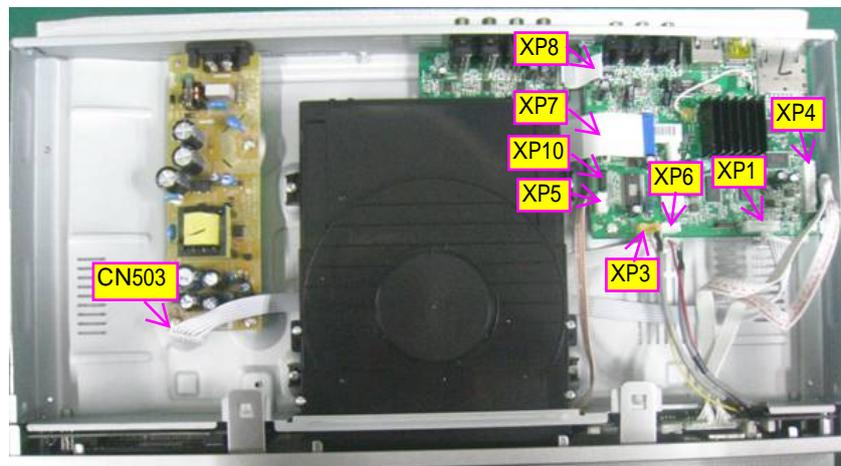

Figure 2
Step2: Dismantling Front Cabinet ,disconnect the connectors XP3,XP6 ,XP4 (Figure 2)
Step4: Dismantling Loader, disconnect the 3 connectors (XP7, XP10, XP5) (Figure 2) aiming in the below figure, and remove 4 screws that connect the loader and the bottom cover. (Figure 4)
Step5 : Dismantling power board first disconnect 1 connector(CN503) (Figure 2) aiming in the below figure, and remove 5 screws that connect the Power board and the bottom cover. (Figure 5) Dismantling back,remove 1 screw as pic shows.